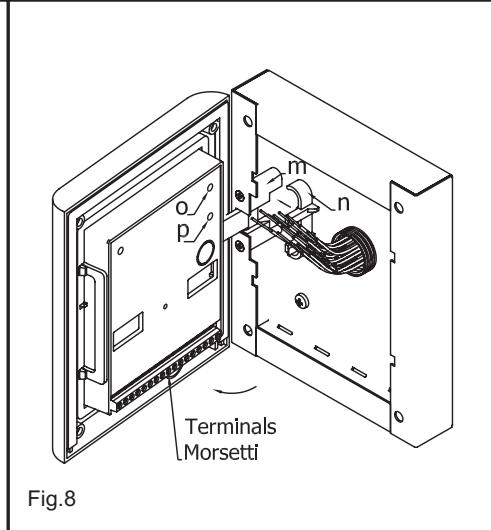

Fig.8
7. As shown in figure 8, open the module support frame **h** as suggested by the pointer, hook the hinge lock **n** to the hinge **m**. When the support frame is hooked to the surface box, do the following operations:
- 7b. test the system and if it is necessary adjust the loudspeaker and microphone volume through the trimmers accessible from the openings **o** and **p** (fig.8);